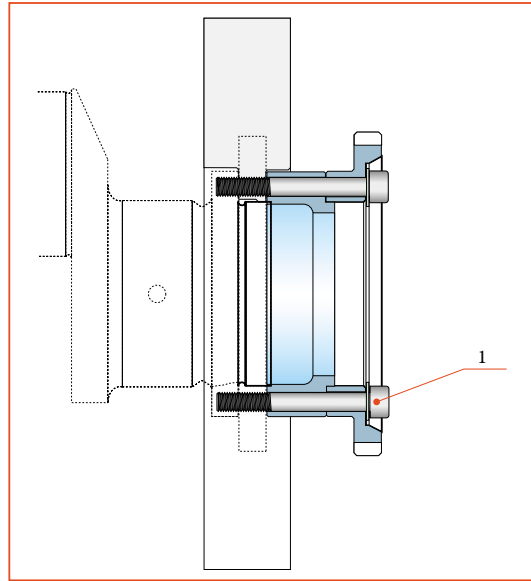
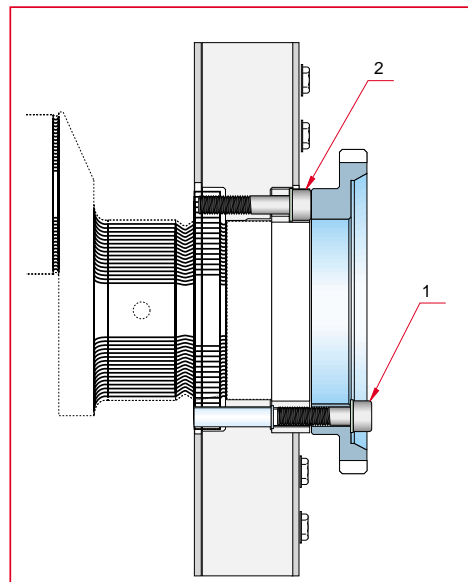

FIG. 07-9
FIG. 07-10
- c) Crankshaft free end** for W12V220 see FIG. 07-9, for W18V220 see FIG. 07-10